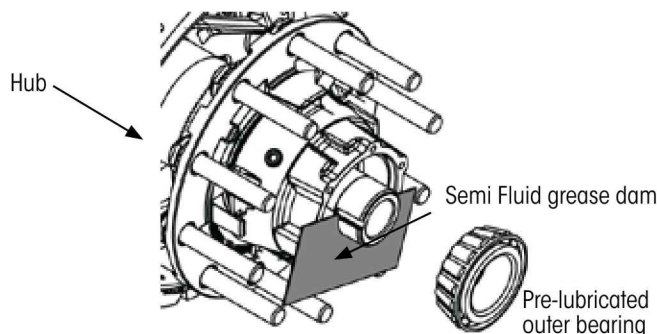

Figure 10: Semi Fluid grease dam application
3. With the hub supported in position as shown in Figure 10, **place and hold** the Semi Fluid grease dam so it covers the lower half the hub opening.